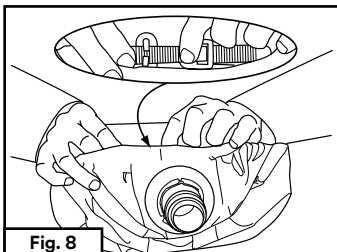
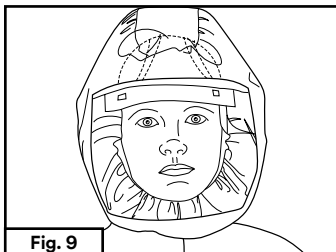

Fig. 8
Fig. 9
- **Headgear with plastic suspensions only** (all models except S-103 and S-403): If your hood or headcover has a plastic suspension, it may be adjusted as necessary to achieve a comfortable fit (Fig. 8). The headband of the plastic suspension should be worn around your forehead and the crown strap should be positioned on top of the head, not around the back of the head (Fig. 9). **NOTE:** The fabric suspension in the S-103 and S-403 is not adjustable.